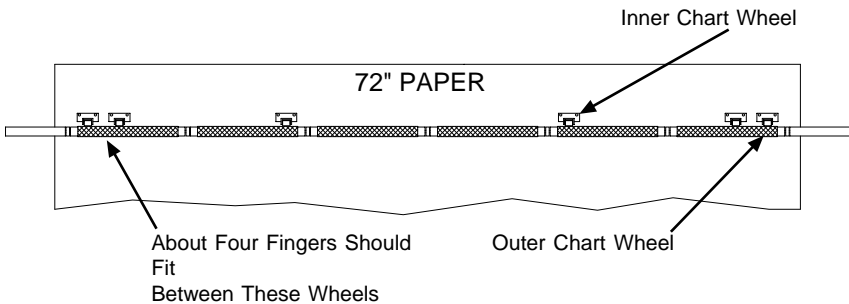

Figure 19. *Positioning the chart wheels for 72" (183 cm) paper.*
3. The inner chart wheels should be placed 1" (2.5 cm) from the bearings as shown in *Figure 19*.